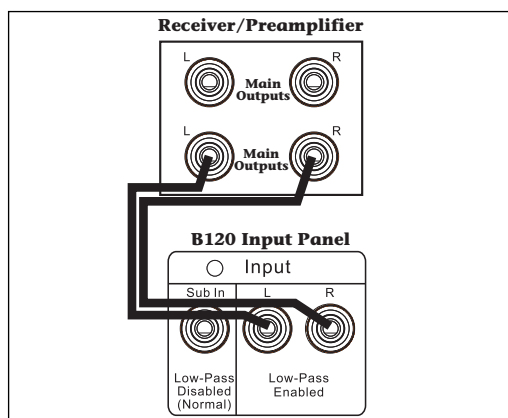

Figure 10: Connection to main outputs
1. Connect an RCA patch cable between the left main output on the receiver/preamplifier to the L(left) Low-Pass Enabled connector on the B120 rear panel, as shown in Figure 10.